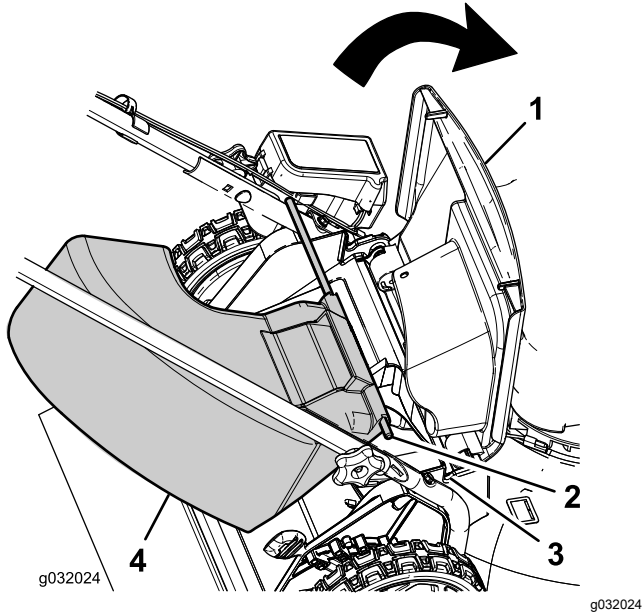

Figure 15
1. Lift up the rear deflector (Figure 15).
2. Insert the rod ends of the side-discharge chute into the notches on the handle brackets (Figure 15).